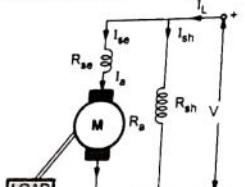

Fig. 8.5.4 Long shunt compound motor
- In this type, the shunt field winding is connected across the combination of armature and the series field winding as shown in the Fig. 8.5.4.